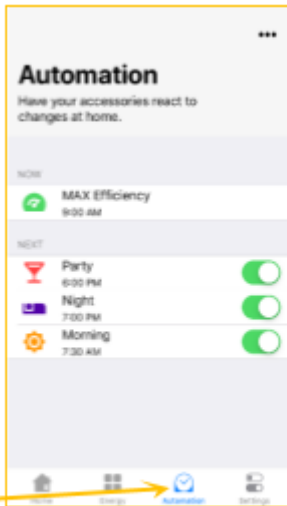

Figure 55
**10.13.1.** Click at **Automation** menu option for operating scenarios of BLINDS (Fig. 55).